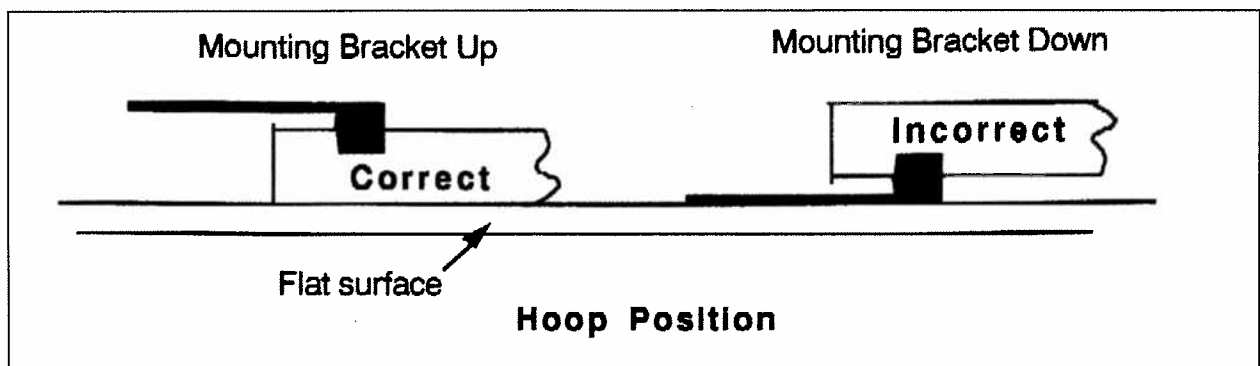

Figure 4-12
3. Place the outer hoop on a clean, flat surface with the mounting bracket on the side that is up and away from the flat surface. See Figure 4-12 .